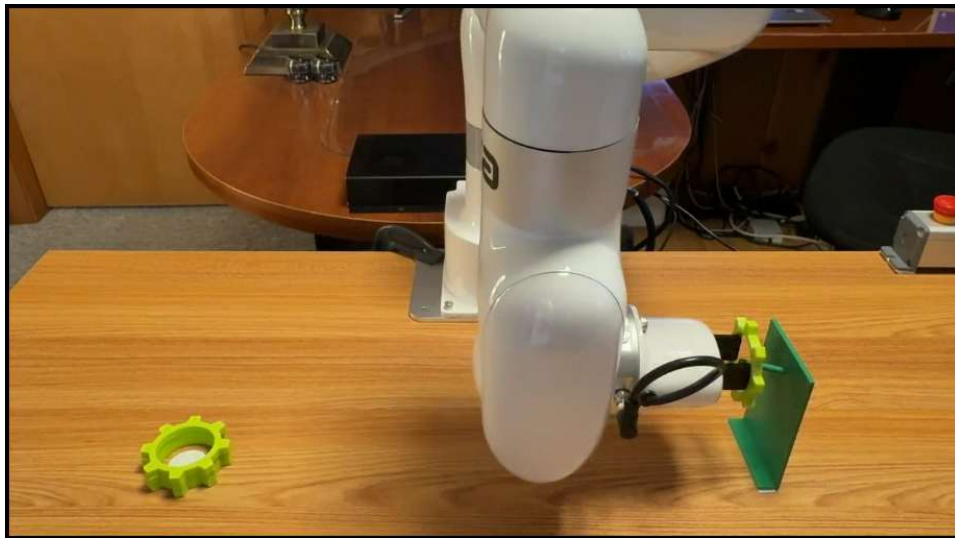

Figure 1
Figure 1 shows the setup for this challenge. This figure shows a snapshot taken as ORA is about to release a gear onto a peg on the vertical wall. Notice that the finger gripper has expanded to grip the gear from within. Three additional gears are waiting on the left to be transferred one-by-one to the wall. The gears and vertical wall can be 3D-printed from STL files included with this challenge lesson.
2. Make sure that the **Emergency Stop Button**, also shown in the center-right side of Figure 1, is within easy reach. It might even be a good idea to have one student with his or her hand above the button when the program is started, in the event that it becomes necessary to instantly terminate all motion of ORA's arm and cancel any commands.